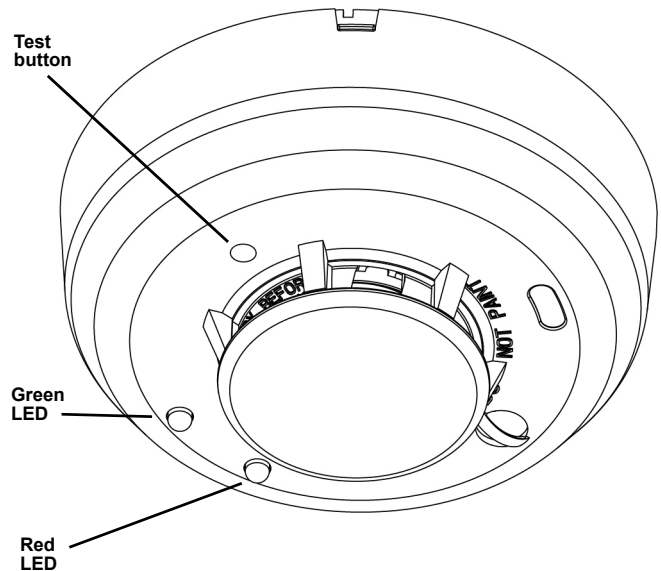

Figure 1 Wireless smoke detector external components
2. When prompted to register the device, use a small screwdriver or Allen wrench with a diameter of less than 0.18" to press the recessed test button (See Figure 1).